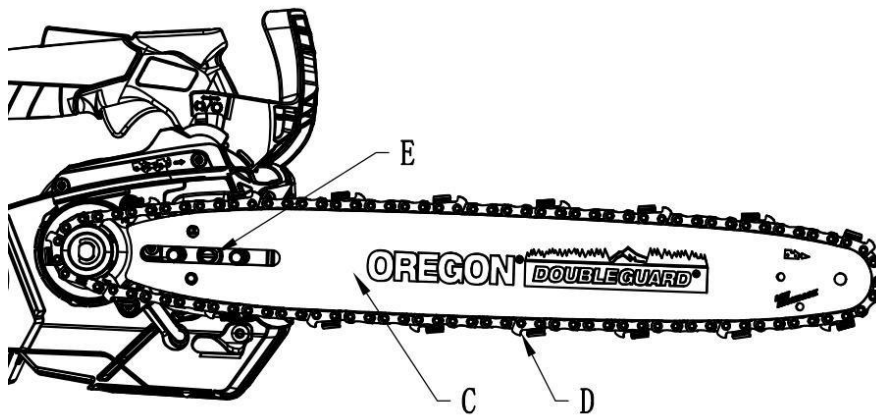

Fig 7
4. Adjust the chain tension adjuster (E) and assemble the guide bar (C) and chain (D) as shown in Fig 7.